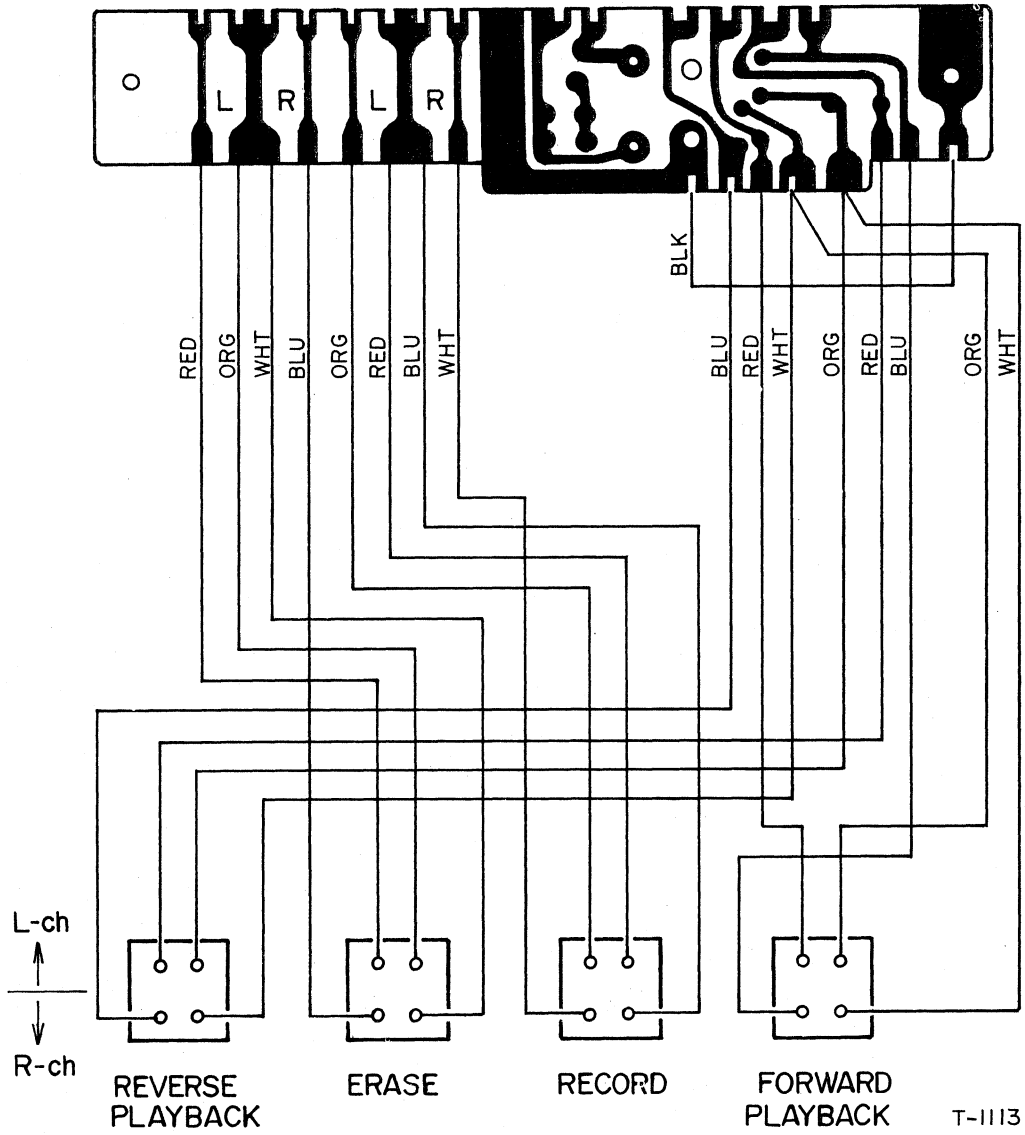

Fig. 6-4 Head wiring
3. Remove 2 mounting nuts through access slot in head base plate and disconnect head wires. See Fig. 6-4.